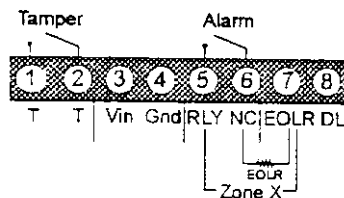

Figure 1: Terminal Block
6. Connect the wires to the terminal block located on the right side of the PCB as shown in Figure 1.